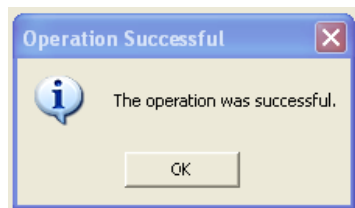

Figure 28: Operation successful message
- An “Operation Successful” message appears if the operation is successful (Figure 28).